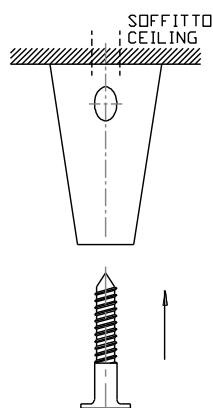

Figure 4 - *Figure 4*
- Fix with M5 screws (not supplied) the components B1 (figure 2) to the screw anchors, as reported in figure 4.